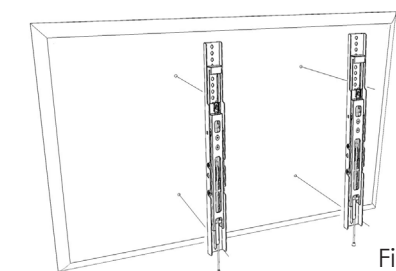

Figure 4
- Spacers(D) are commonly needed on televisions with curved backs or recessed screw inserts. The screw will thread through the appropriate washer (N), spacers, and the arms into the TV.
- Ensure the arms are installed flat side to television, and are square to each other after all screws have been installed (Figure 4).